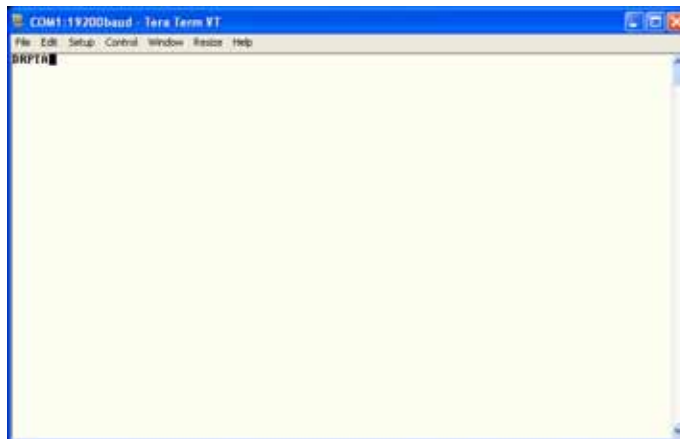

Figure 6-23: Entering the DRPTA Command
4. Type **DRPTA** (all caps) in the dialog box (Figure 6-23), and press **Enter**.